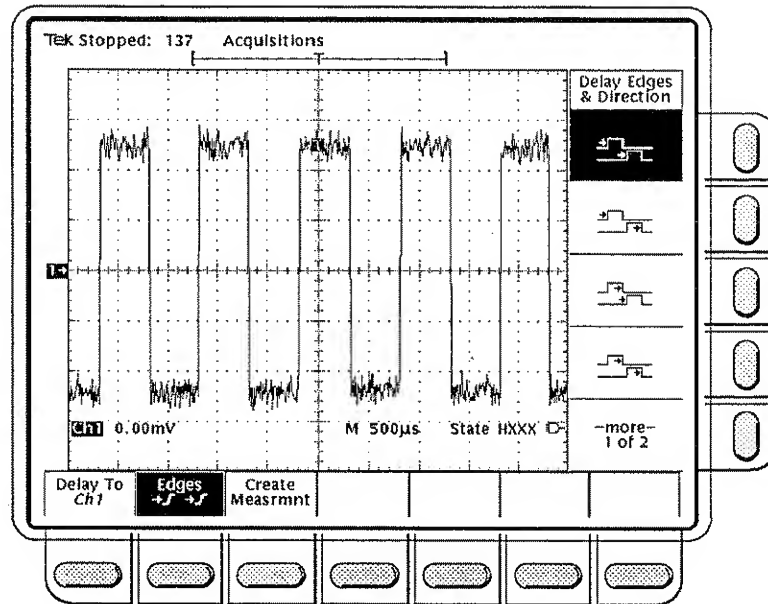

Figure 3-33: Measure Delay Menu – Edges
- ☐ **Step 3:** On the Measure Delay menu, press the main menu button with the label **Edges**. A side menu of delay edges and direction will appear (Figure 3-33).